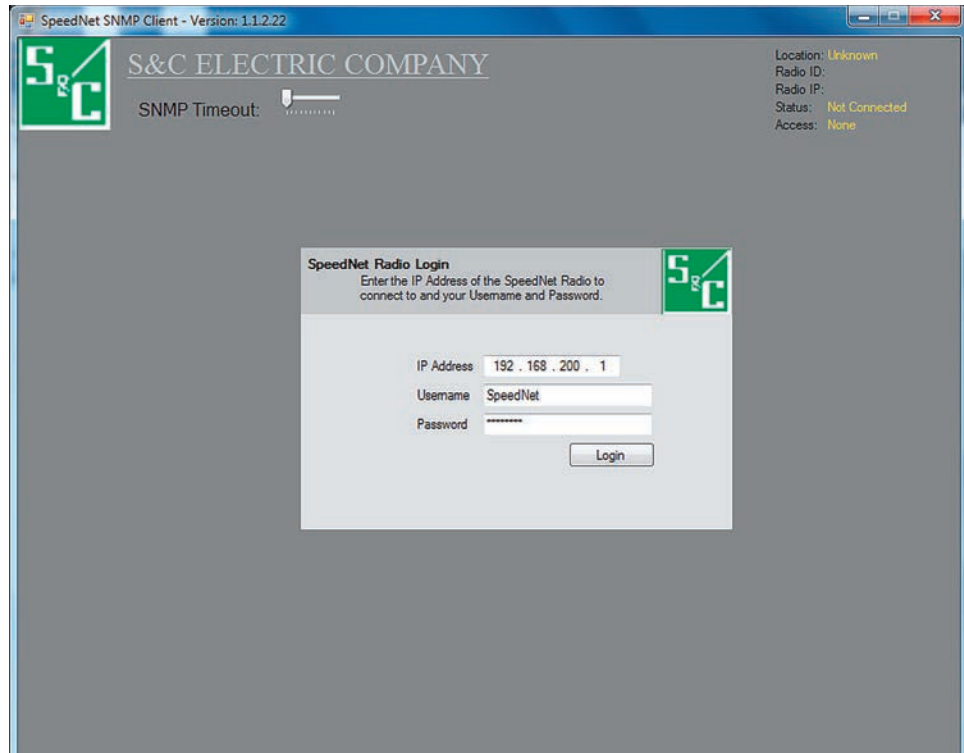

Figure 6. SpeedNet Radio login dialog box.
STEP 16. Open the Client Tool (see Figure 6 on page 10) and enter: